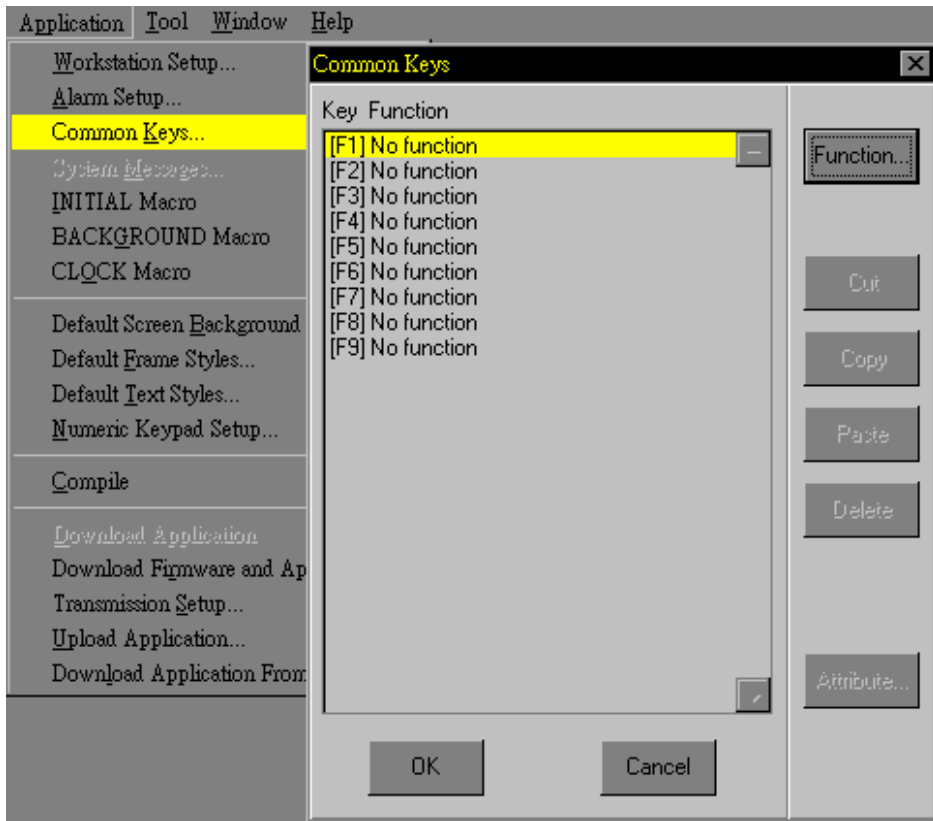

Figure 2
- 1) **Common Keys** - A common key is used to activate a designated function no matter what the current screen is. For example, you can press the key K1 to return to the screen 1 whenever you want if the key is configured as a common key that goes to screen 1. To configure common keys for your application, select Common Keys on the Application sub-menu of the ADP3 as shown in the Figure 2.